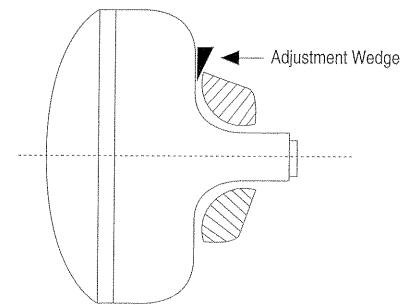

Fig. 2-21
- (1) Insert an adjustment wedge (temporary) between the top of DY opening and CPT funnel as shown in Fig. 2-21. By inserting the wedge gradually, match the red and blue vertical lines at the top and bottom of the screen and also match the red and blue horizontal lines of both sides of the screen as shown in Fig. 2-22 (a).